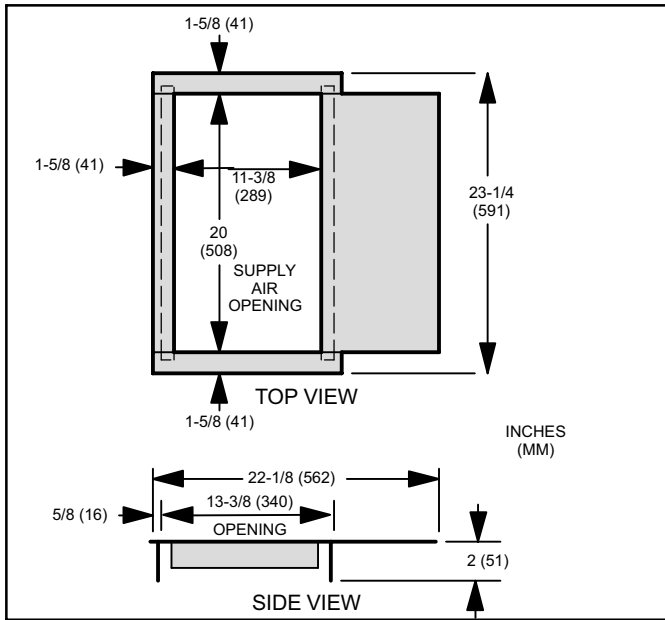

Figure 6. Down-flow Combustible Floor Base Dimensions
- Step 1. Cut an appropriately-sized opening for the base using dimensions listed in figure 6.